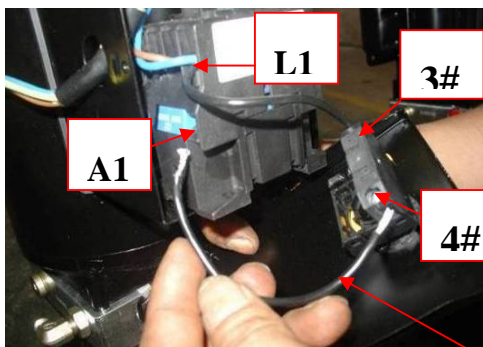

Fig. 33
4. Connecting the Limit Switch: Removing the wire of connecting terminal **4#** on control button and terminal **A1** on AC contactor firstly (See Fig. 33), then connecting wire **12#** (brown color) of the limit switch with terminal **4#** of the control button and connecting wire **11#** (blue color) with terminal **A1** on AC contactor respectively. Connecting the earth wire (green and yellow color) of the limit switch with earth wire terminal on power unit. (See Fig. 34).